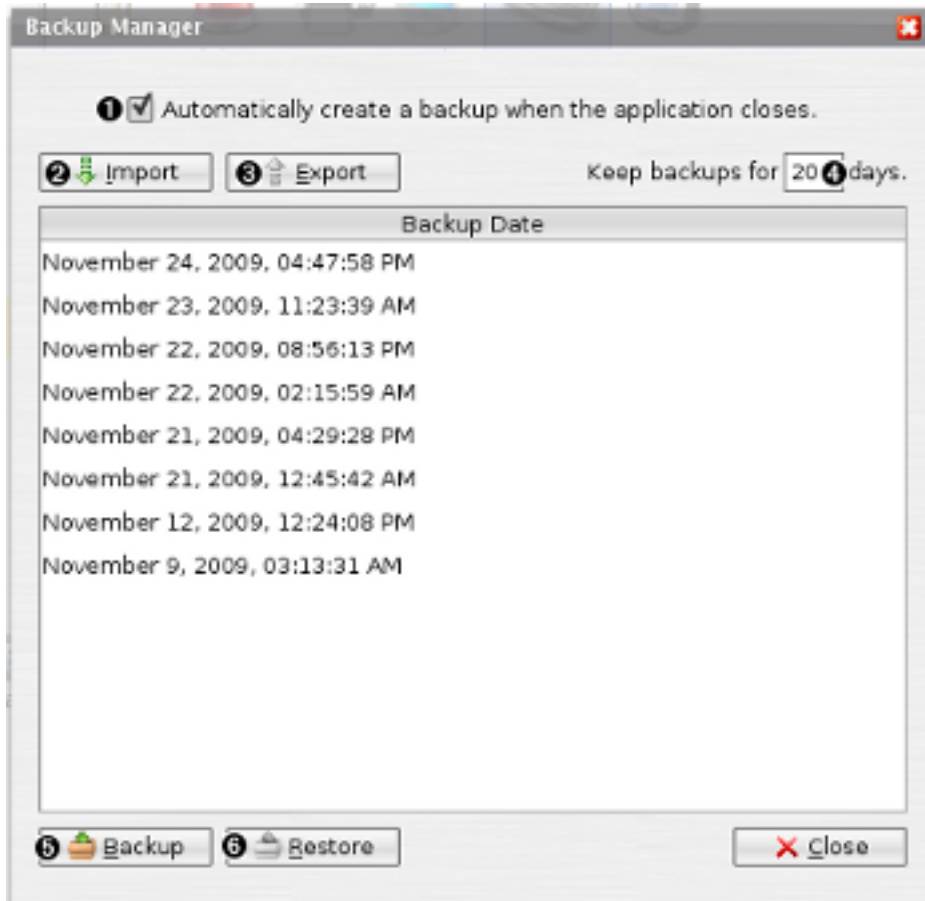

Figure 10.2. Backup Manager Dialog
1. Make sure trucklogger is running then click the File → Backup Manager and wait for the backup manager dialog to appear see Figure 10.2, “Backup Manager Dialog”.